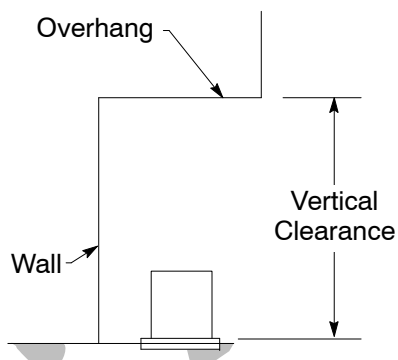

Figure 2
C. Vertical clearance from overhangs (see Figure 2): To provide space for hoisting equipment so that equipment can be replaced, the following vertical clearances from the top of the pad for pad-mounted equipment or top of the enclosure for subsurface equipment are required (based on *G.O. 128, Rules 17.3 and 34.2*).